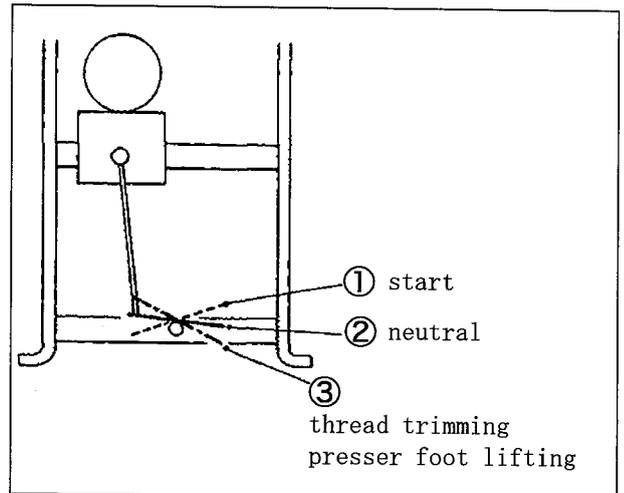

Fig. 20
- (1) Heel back the pedal to raise the presser foot.
(Fig. 20 ③)
- (2) Place the fabric under the presser foot and toe down the pedal. (Fig. 20 ①)
- (3) Release the pedal. (Fig. 20 ②)
- (4) Heel back the pedal. (Fig. 20 ③)
- (5) Release the pedal. (Fig. 20 ②)